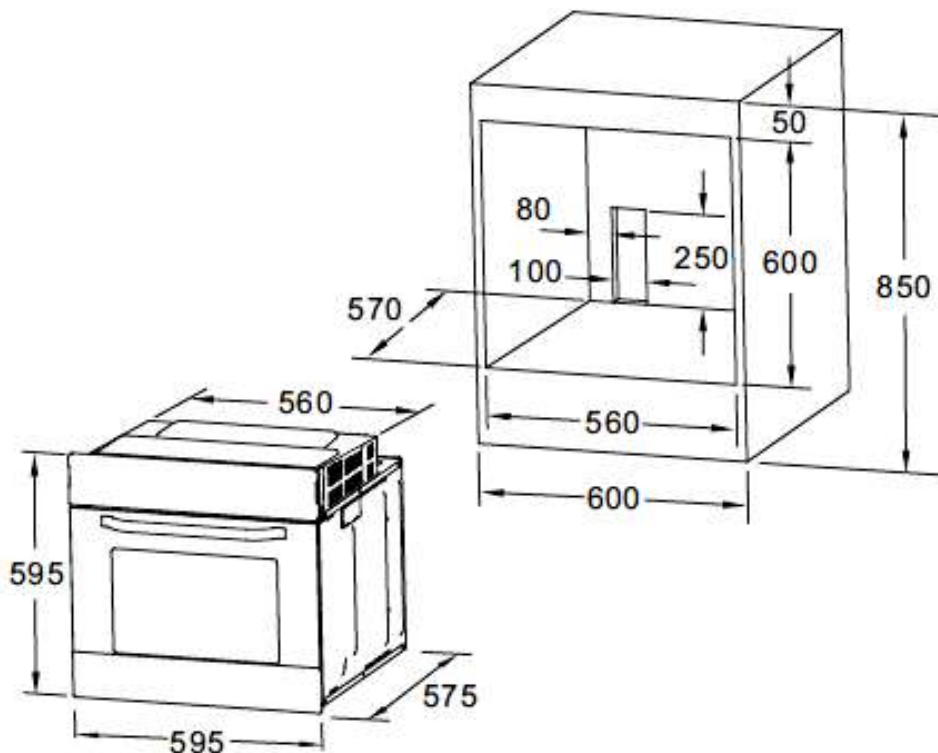

Fig. 1
- Provide an opening meeting the dimensions on figure 1. Fit the appliance into the opening.